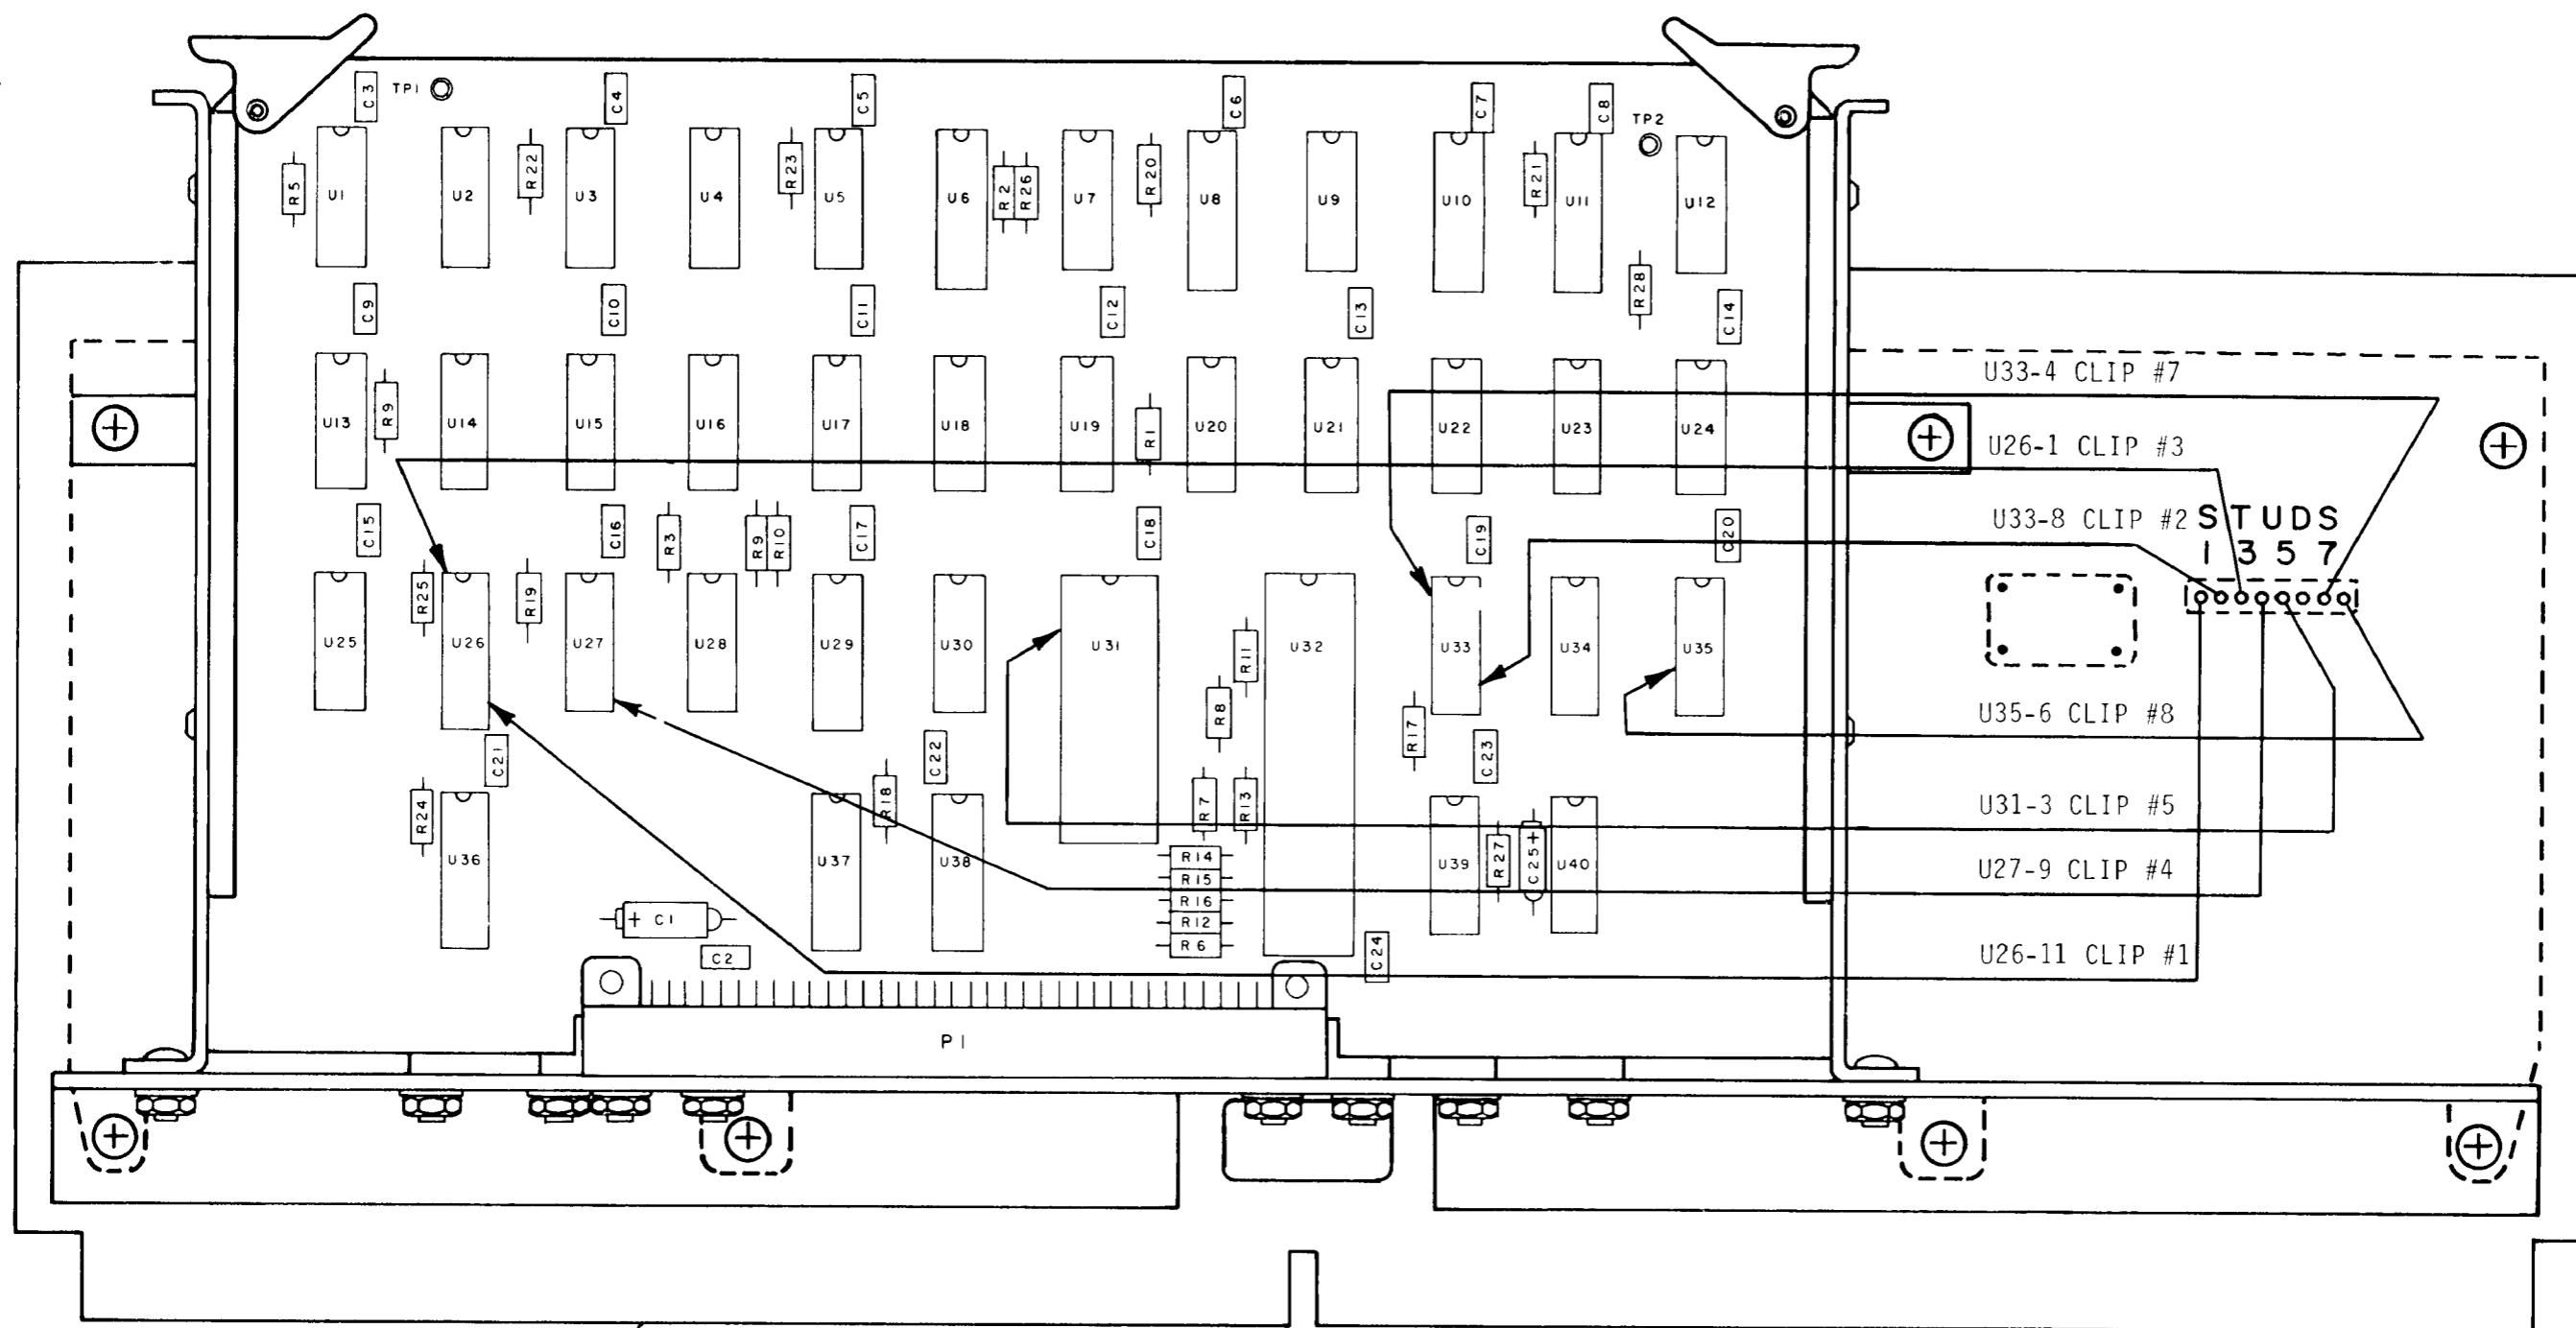

Figure 2-1.
(8) Attach test clips as shown in figure 2-1.